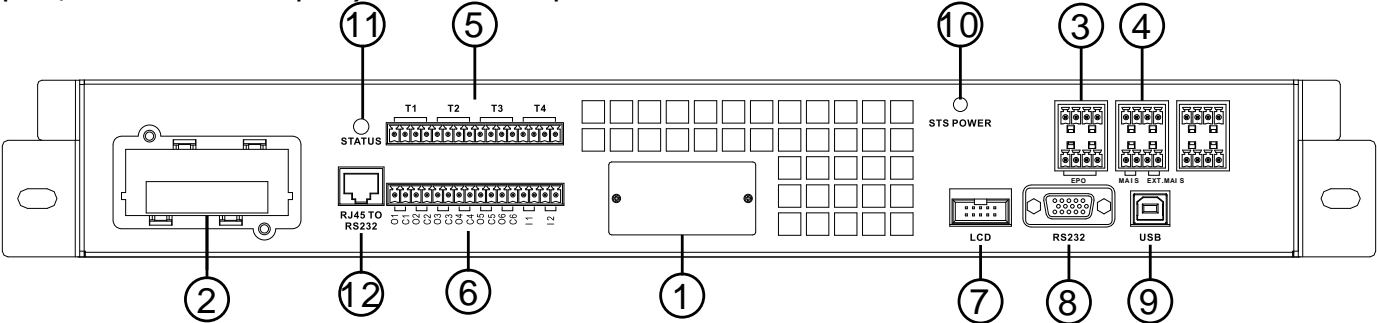

Figure 5-1 Front view of Monitor module
As shown in figure 5-1, the Monitor Module includes dry contact ports (③~⑥), Extra SNMP slot, SNMP slot, LCD connection port, STS Power LED and serial communication ports (RS232 port, USB port, RJ45 to RS232 port) on the front panel.